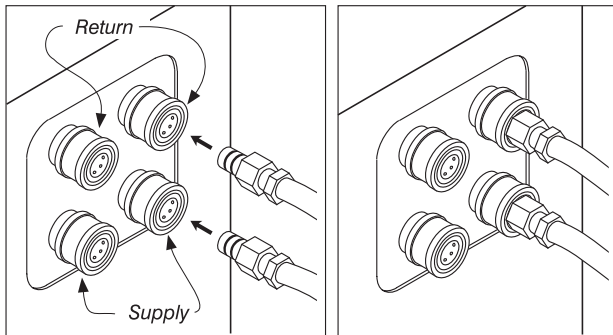

Figure 5—Quick-disconnects
1. Attach one quick-disconnect fitting to the **upper** machine connection and one to the **lower** (fig. 5, p. 7). Push each retaining collar toward the cabinet and insert the quick-disconnect fitting firmly. While holding the fitting, allow the retaining collar to snap back into position. Check to make sure the fitting is fully engaged by tugging firmly on the hose.